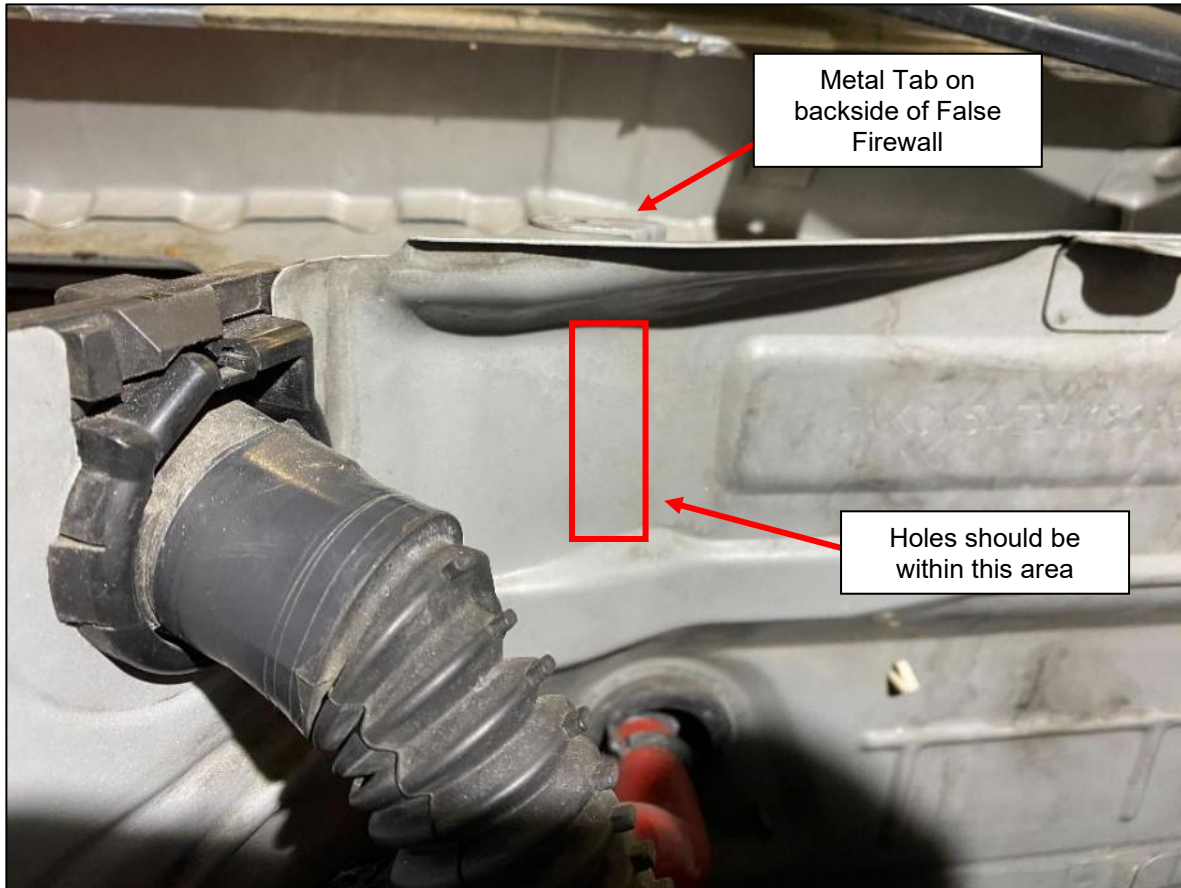

Figure 43
7. You will need to drill (2) two holes to mount the Fuel Pressure Regulator Bracket. Use the Bracket as a template in the area below and mark with a paint pen. It should be directly below the metal tab on the back side of the False Firewall. Drill out the marks with a 1/4" Drill Bit. *Figure 43.*